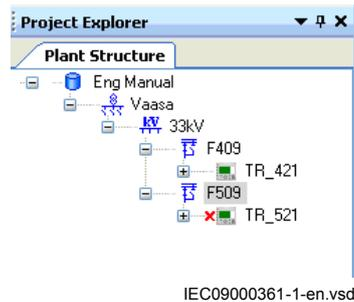

Figure 14: Plant structure showing IED TR\_421 in online mode and IED TR\_521 in offline mode
It is possible to judge whether the inserted IED is in offline mode or online mode from the plant structure. A red color cross before the IED symbol indicates the offline mode as shown in Figure 14.
6. Cross check that the IED, whose IP address has been inserted, has been detected online by PCM600, see Figure 14.